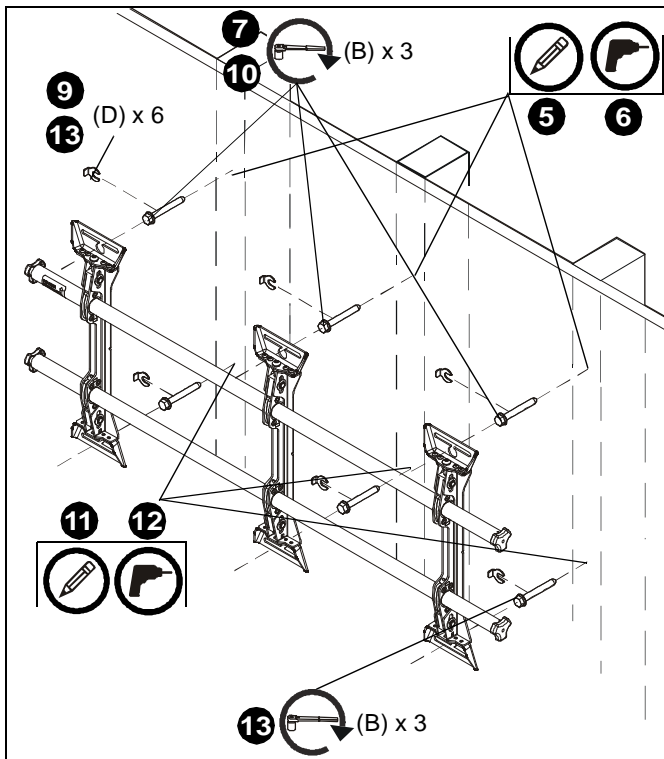

Figure 5
5. Using a level, mark the wall on each stud to attach the mount through the upper mounting slots. (See Figure 5)
7. Partially install three 5/16 x 2-1/2" flanged lag bolts (B) into pilot holes but do not tighten to wall.
9. Place one slotted washer (D) over each flanged lag bolt. (See Figure 5)
11. Mark the attachment points for the lower mounting slots, making sure the attachment points are located on the studs. (See Figure 5)
12. Drill 7/32" (5.5mm) pilot holes at markings for lower mounting holes. (See Figure 5)
13. Use three 5/16 x 2-1/2" flanged lag bolts (B) and two 5/16" slotted washers (D) to attach the mount to the wall through the lower mounting holes. (See Figure 5)